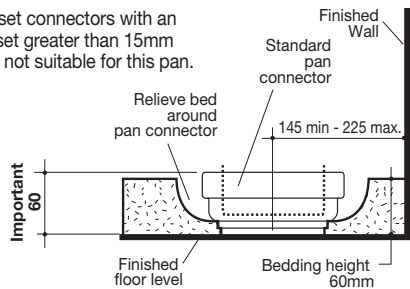
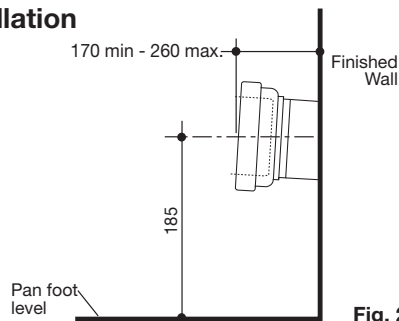

Fig. 1
Fig. 2
It is essential for installation of the Connector Toilet Suite that the soil pipe and pan collar for 'S' & 'P' trap installations are accurately fixed into position as detailed in Fig. 1. and Fig. 2.
- 3- Prepare bedding sand cement mixture 3:1 to depth of 60mm as detailed in Fig 1. Note: Do not fill the foot of the pan with bedding mix or include lime or fast drying cement in the mix, these may cause cracking in the foot of the pan.